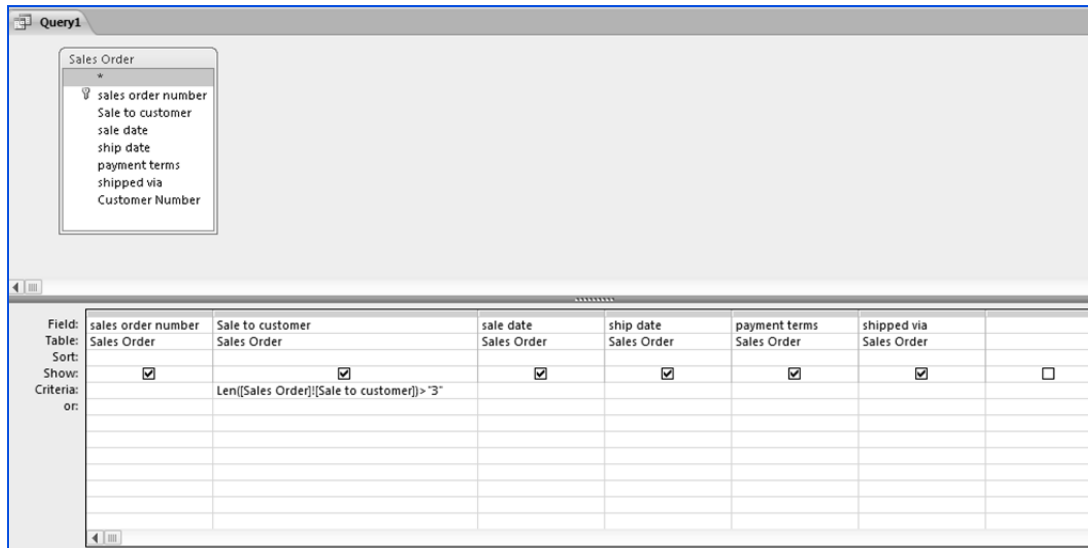

Fig. 3.5.9. Expression appears in Criteria
11. Click OK to save the expression. Note the written expression appears in criteria of the *Sale to Customer* field, as shown in Fig. 3.5.9.